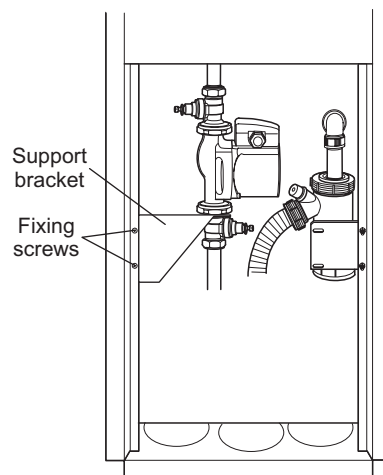

Fig. 4c - Rear view (showing pump assembly)
8. Fit the pump/pump valve assembly to the end of the pressure relief valve/auto air vent manifold pipe. Ensure that the pump shaft is horizontal and the pump motor is facing towards the right side of the boiler (viewed from the rear). Refer to Fig. 4c. The flow arrow on the body of the pump must face in the required direction of flow – away from the boiler flow connection – downwards in this case.